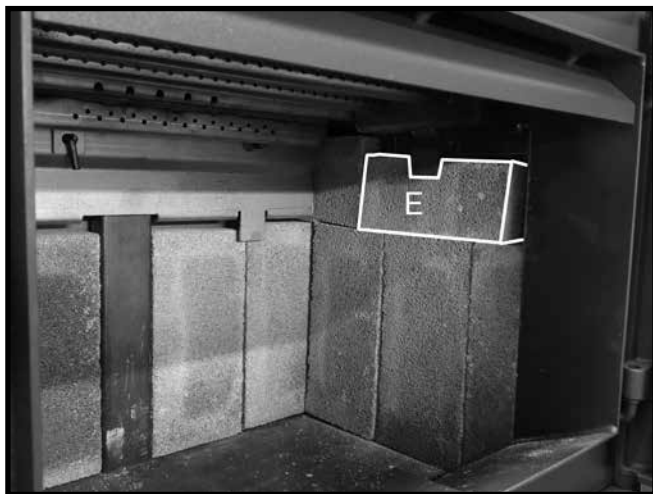
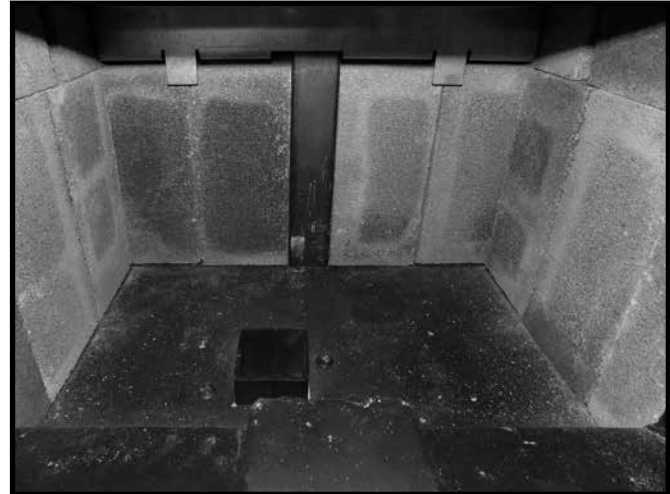

Figure 30: Final side wall firebrick in position.
Figure 31: Firebox floor with ash dump.
7. Slide an "E" firebrick under the side wall brick rail tab and rest on top of the three previously placed side wall firebricks (Figure 30). Repeat steps 4-7 on the other side (Figure 31).